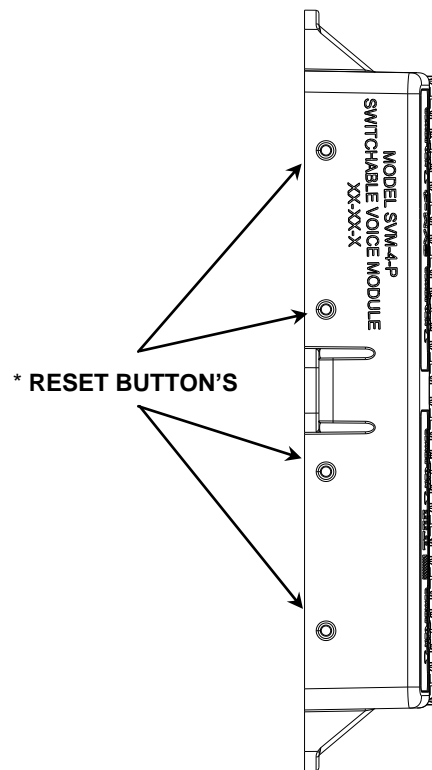

Figure 4
5.2 **Gently** push the reset button once with a blunt object to ensure the service to the customer is from the Telco Service Provider (See Figure 4).